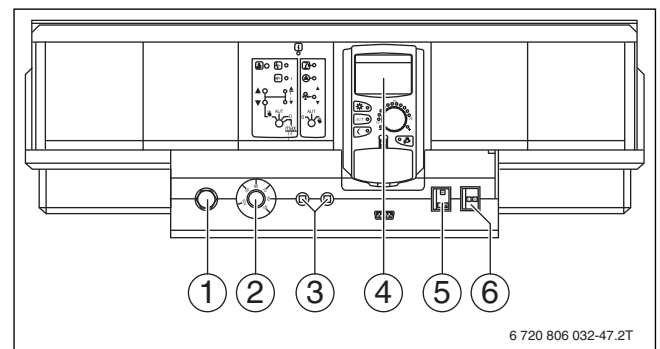

Fig. 3 Control unit, example CFB 930
Start your boiler at the control unit (in this example, Fig. 3: CFB 930). The adjustments made in the control unit will affect the burner as well. The burner can then be started by the control unit.
Shut your boiler down via the control unit (e. g. CFB 930, → Fig. 3, page 5). This also switches the burner off automatically.
- ▶ Set the ON/OFF switch (→ Fig. 3, [2]) to "0" (OFF).